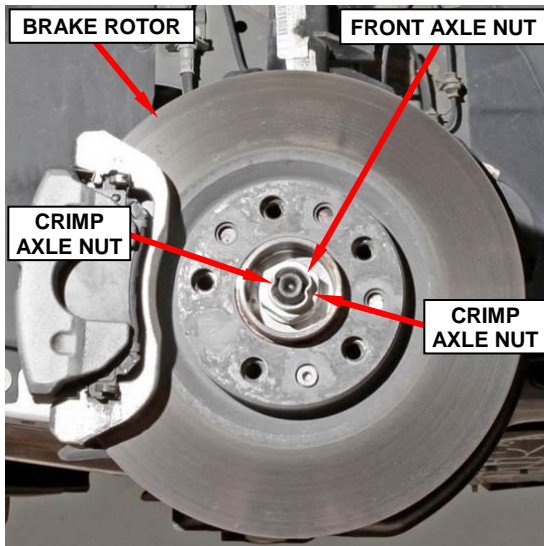

Figure 17 – Front Axle Nut
21. Replace the front axle nut securing the halfshaft to the wheel bearing, left and right side. Tighten the nut to 178 ft. lbs. (200 N·m). Crimp the nut in two places using Front Hub Staking Tool 10287 (Figure 17).
NOTE: The nut must be crimped in two places 180 degrees apart in direct line with the axle key slots as shown in (Figure 17).